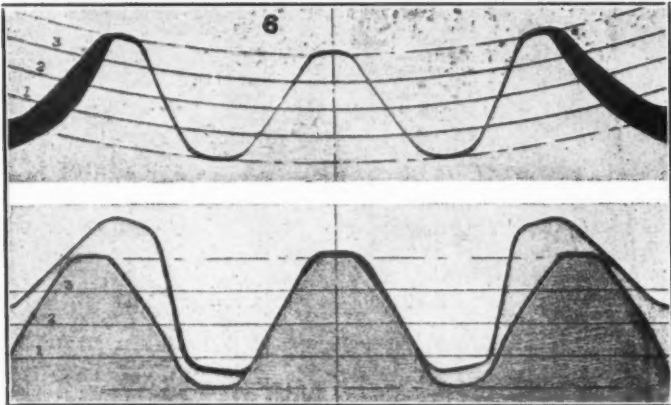

Fig. 6—Sections of Lanchester and straight gears in mesh, the Lanchester gear being the upper of the two
Referring to Fig. 6 in which are shown the middle sections respectively of the Lanchester and the D. B. S. gear, it will be noted that whereas the surfaces represented by their development in Figs. 7a and 7b are surfaces of double curvature in the Lanchester gear, they are ordinary
cylindrical surfaces in the case of the parallel worm; clearly, it is necessary to adapt the geometry to the variation of type. Thus, whereas in the Lanchester, as before stated, the development, Fig. 7a must be regarded as to some extent a convention, in the case of the D. B. S. worm it is a true development of a right cylinder, and the assumption of the uniform and parallel worm teeth is strictly accurate. In the sections Fig. 6 the three surfaces of section at $\frac{1}{4}$, $\frac{1}{2}$ and $\frac{3}{4}$ of the tooth height are numbered respectively 1, 2 and 3 in both cases, and corresponding figures of reference are given in Figs. 7a and 7b.
In planning the cutting up of the worm block into sections, consideration was given to the fact that it is desirable to have one of the sections in the plane of the worm axis (as in sections Fig. 6); the plan adopted is shown diagrammatically in the right-hand section (3) of Fig. 7c. The alternative presented itself of either milling away the last section and having no terminal record of the tooth, or of leaving the last section double thickness—the latter was the course adopted. Thus, taking the original face preceding the first section as 0, the total width being $1\frac{1}{2}$ -in., the middle section falls to 6, and what would have been the eleventh section is missing, the terminal face being so numbered.